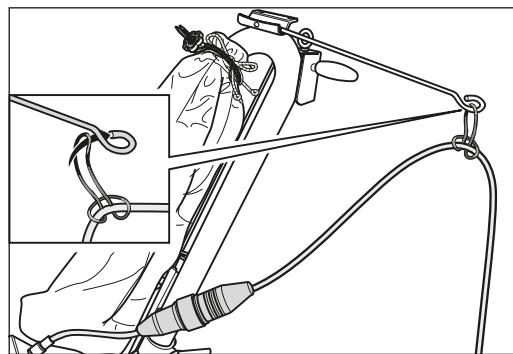

Fig. 16 Mount the strain relief ring on the cable support.
- 4 Mount the strain relief ring on the cable support (fig. 16).